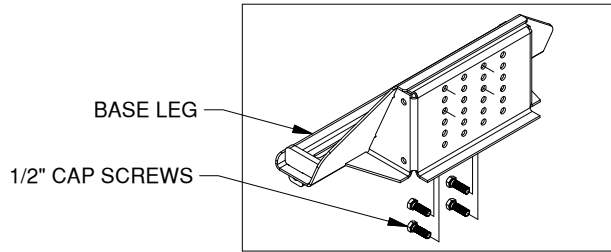

Figure A2: View of base leg.
2. Locate both base legs and eight 1/2" cap screws, Identify the mounting holes needed to mount the arms in their optimal location. Pass four 1/2" cap screws through the bottom of the base into the bolt plate, as shown in figure A2.